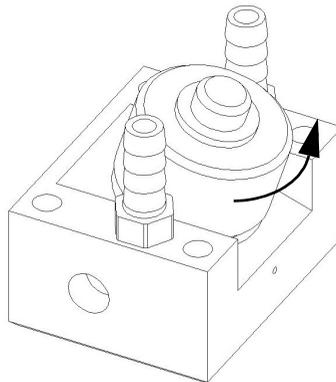

Figure 4-4 Unscrewing the probe
8. Ensure that the probe cable is disconnected, and then unscrew the probe from the wedge (see Figure 4-4 on page 32).